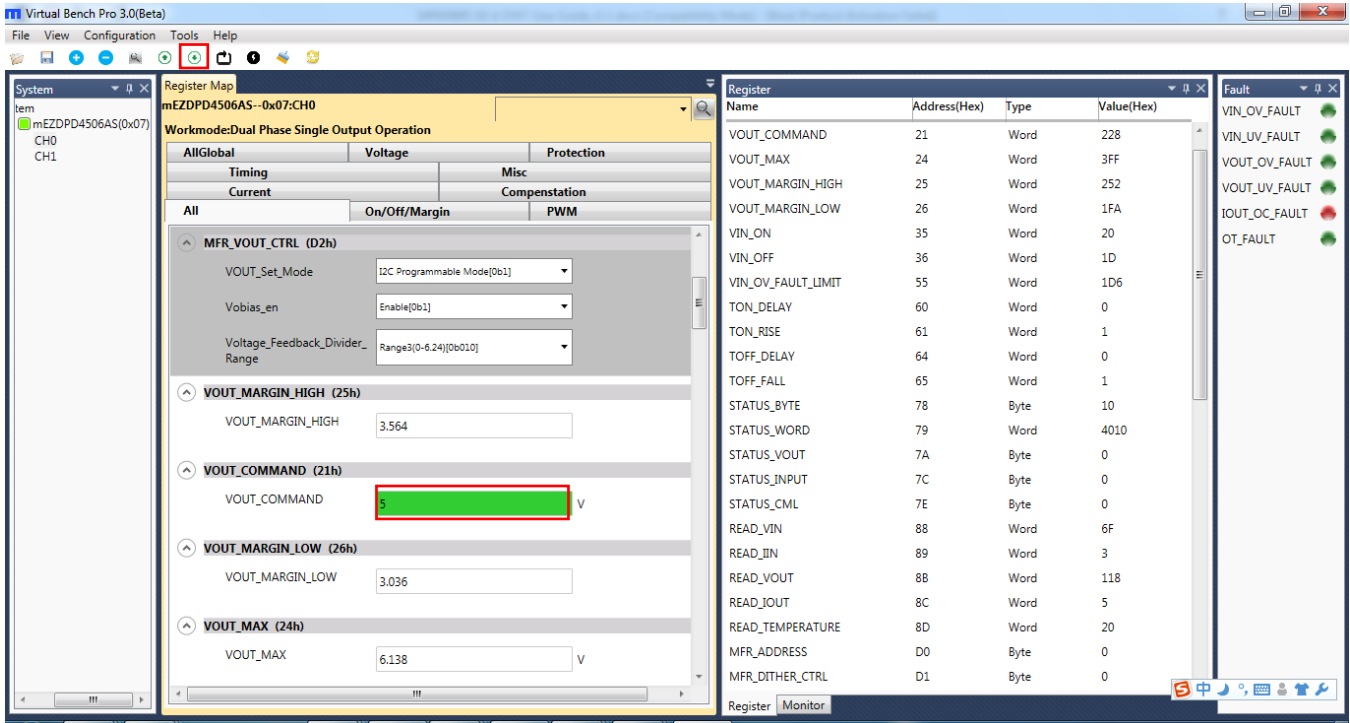

Figure 9: Write Values Steps Shown in Table
4. Click the “Write to Chip” button to write values to the register (see Figure 9).